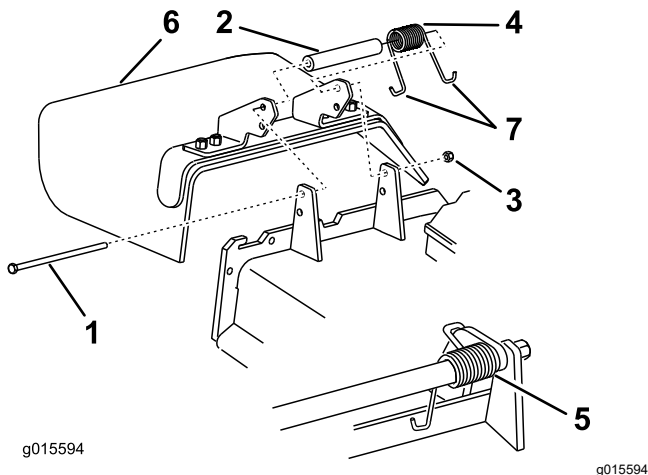

Figure 102
1. Remove the locknut, bolt, spring, and spacer holding the deflector to the pivot brackets (Figure 102).
2. Remove the damaged or worn grass deflector (Figure 102).
Note: Make sure that 1 J-hook end of the spring is installed behind the deck edge before installing the bolt as shown in Figure 102.
6. Place 1 J-hook end of the spring around the grass deflector (Figure 102).